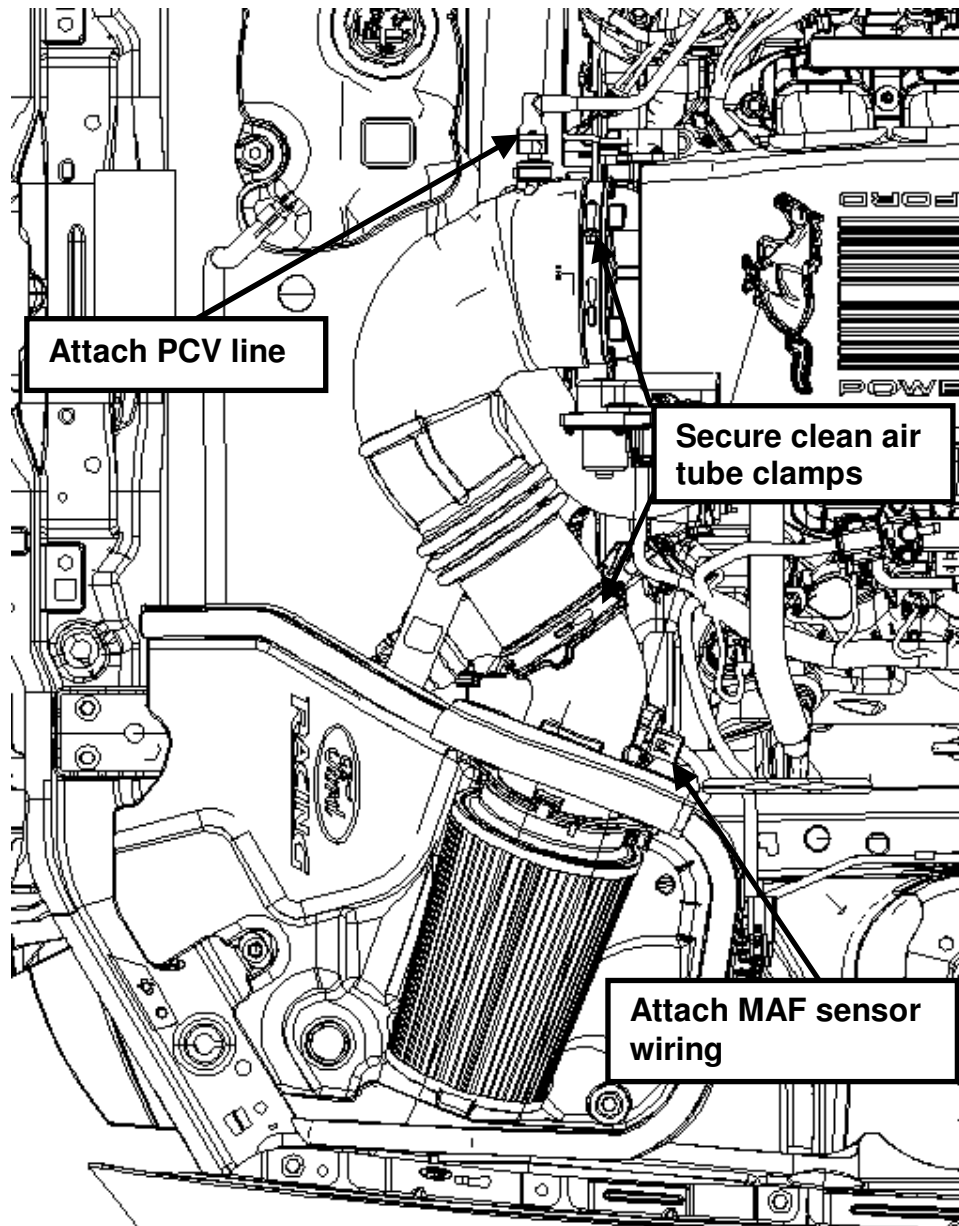

Fig. 7
**STEP 5:** Install the new rubber clean air tube onto the throttle body and air intake bucket assembly. Tighten the worm drive clamps and torque to 3 Nm (26 lb-in). Re-install the MAF electrical connector onto the MAF sensor and reconnect the PCV hose (See Fig. 7).